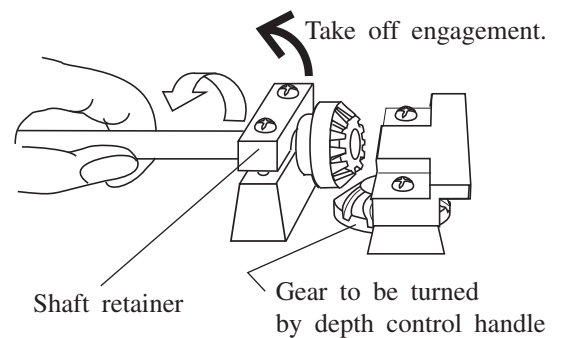

Fig.8B
(5) Loosen screw on shaft retainer and take off bevel gears' engagement. (See Fig.8B.)
(6) Adjust the distance between table and round section of drum by turning depth control handle. Movement by one tooth is equivalent to 0.13mm up and down. (See Fig.8B and Fig.9)